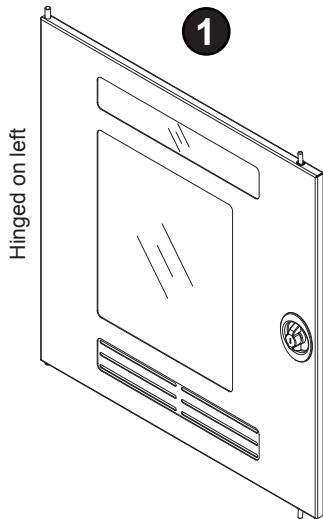

Figure 6.2
1. Remove the door using the quick-release lever. **Figure 6.2.**